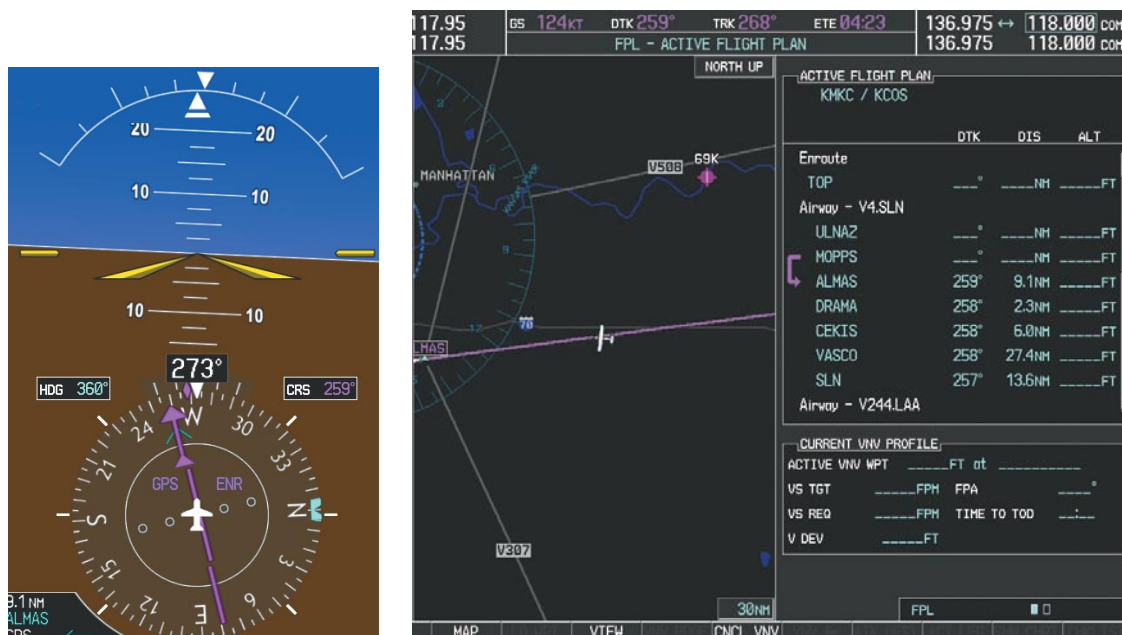

Figure 5-112 Turn on to Active Leg
- 7) As the CDI approaches center, the aircraft turns onto the active leg as seen in Figure 5-112.